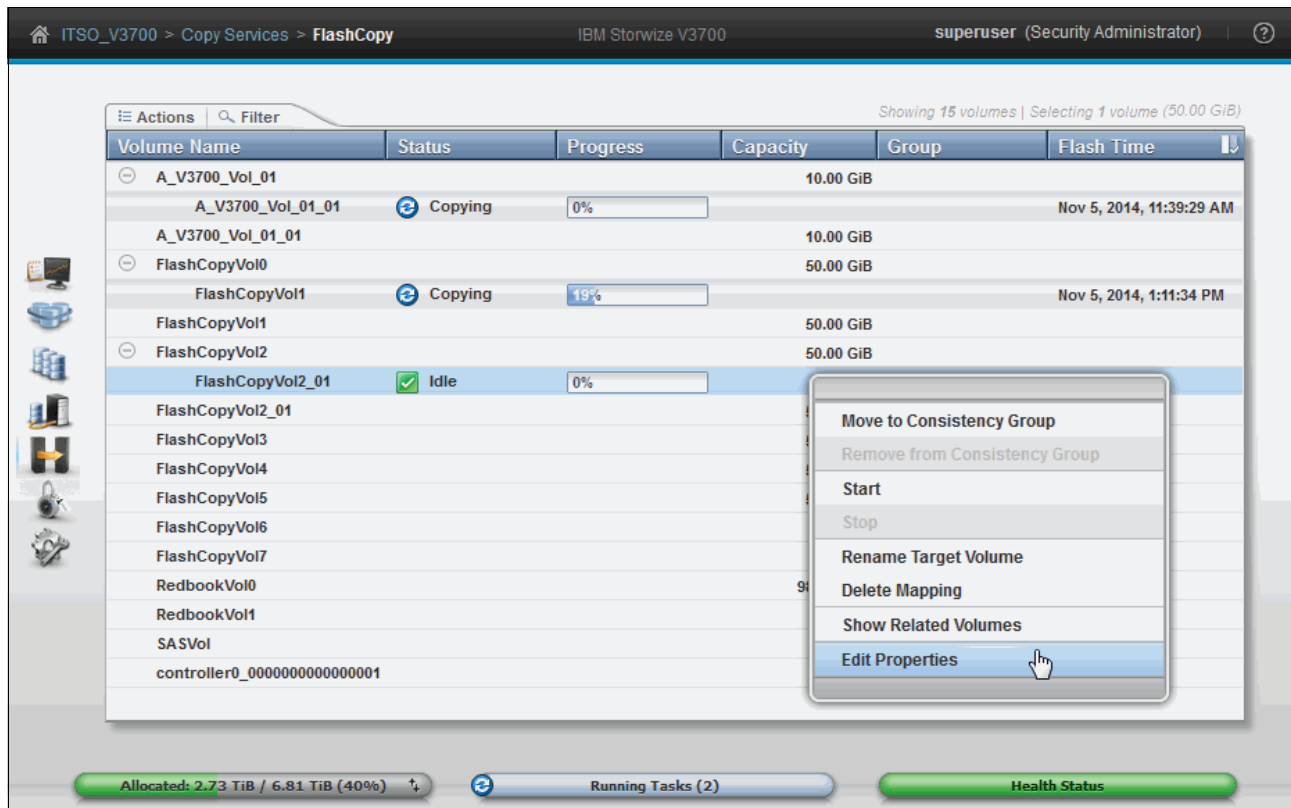

Figure 10-41 Edit Properties menu
2. Click **Edit Properties** in the **Actions** menu (as shown in Figure 10-41), or right-click the FlashCopy target mapping.